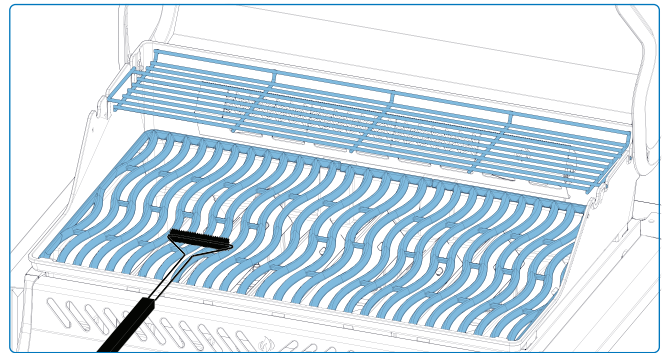

Fig. 8
- Clean stainless steel cooking grids by preheating the grill and using a wire brush to remove residue **(Fig. 8)**.